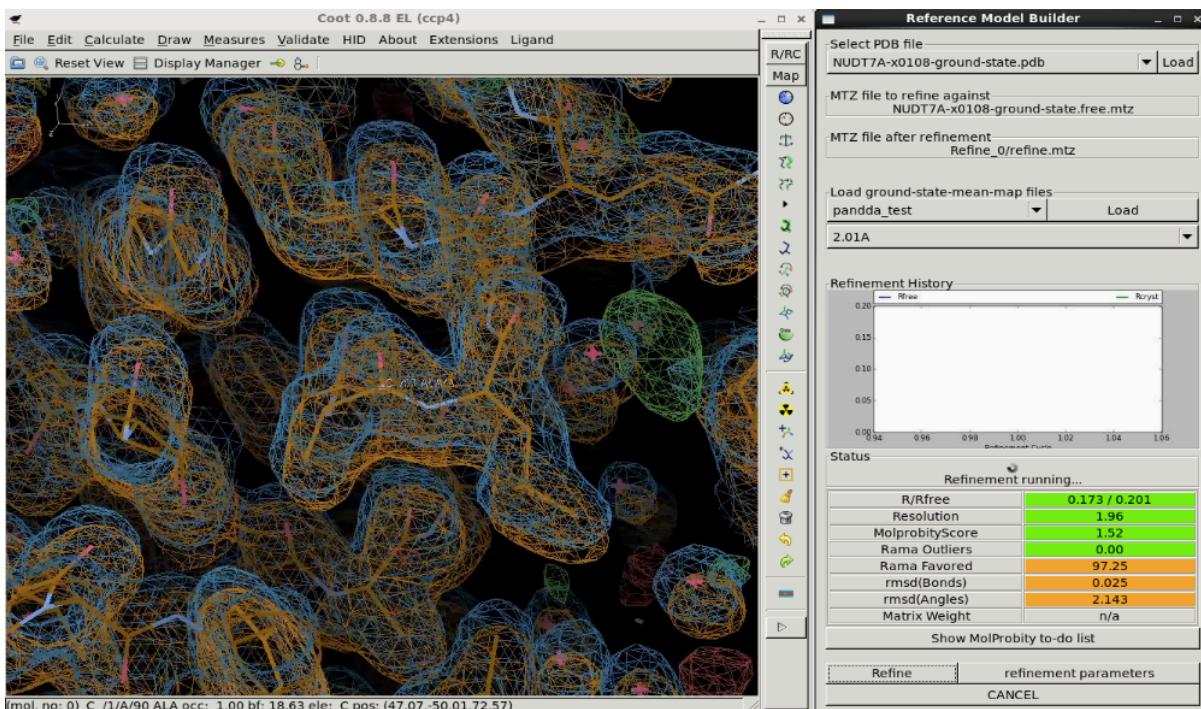

Figure 32. COOT interface during refinement. Note the little spinner in the middle of the panel which indicates that the refinement is still running.
- The modified model will be refined on the DLS cluster. A spinner will appear in the refinement panel and it will spin until the refinement is finished (see Figure 32). You cannot launch another refinement job while the current refinement is not finished.